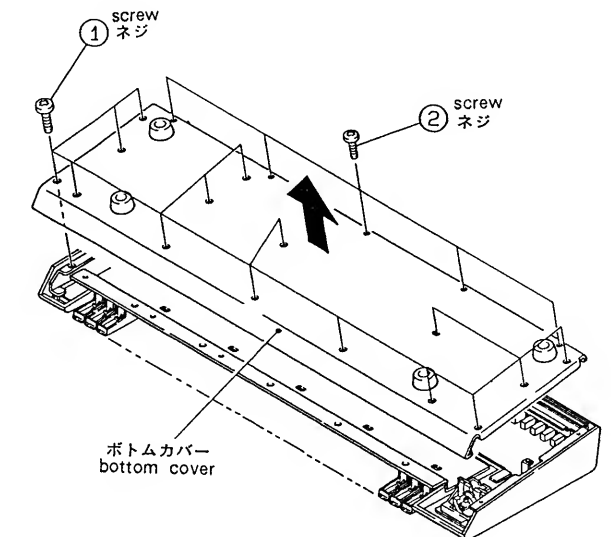

Fig.1
1) Turn OFF the power supply switch and remove the power supply cord. Turn over the U-20 unit, loosen (1) 15 screws and (2) 5 screws and then remove the bottom cover from the unit. (Fig.1)